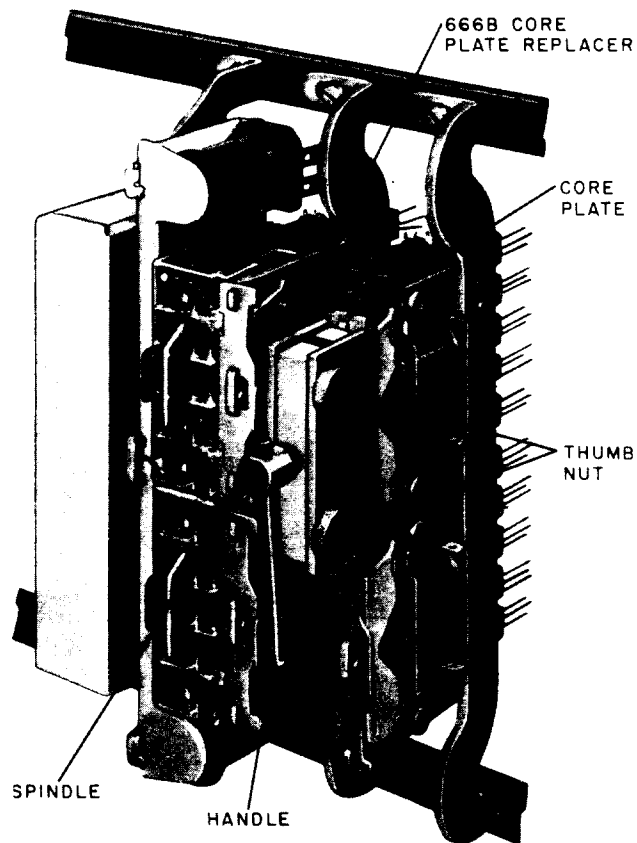

Fig. 15—Removing Core Plate Using 666B Core Plate Replacer
3.40 Removing Core Plate: Remove the core plate as follows. Place the 666B core plate replacer on the relay so the grooves in the tool fit over the sides of the core plate with the thumb nuts at the right, as shown in Fig. 15. Tighten the thumb nuts so the replacer firmly engages the core plate. Turn the spindle of the replacer clockwise until the core plate is free of the core and remove the replacer and core plate. Remove the core plate from the core plate replacer.